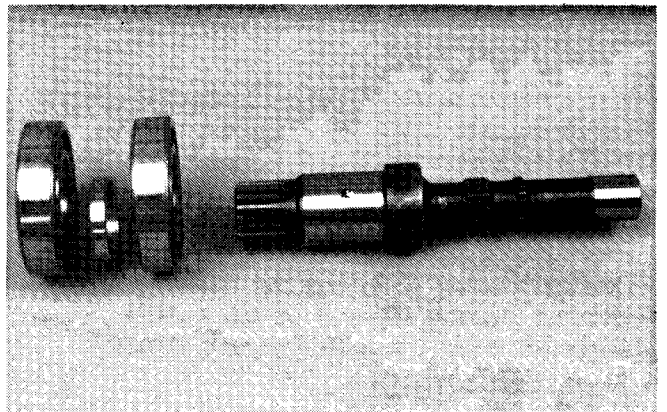

Figure 52
13. Press motor shaft out of bearings and spacer (Fig. 52).